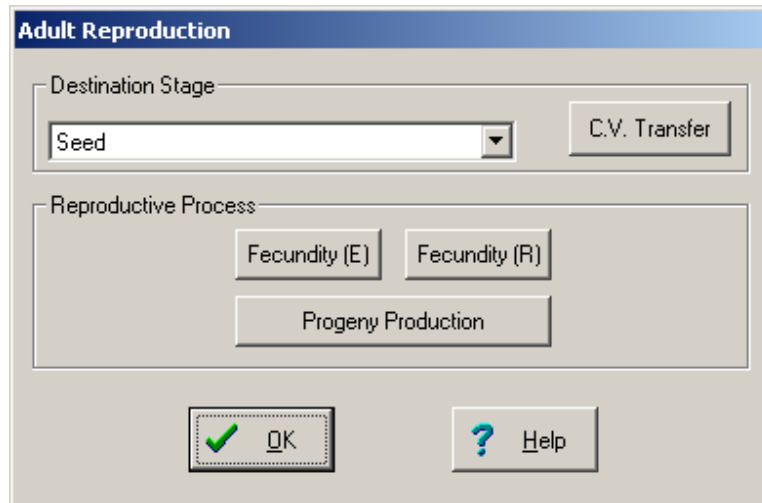

Figure 1.9 Reproduction Dialogue Box
Reproductive parameters are set from the '**Reproduction**' dialogue box (Figure 1.9 and its three components are **Fecundity (E)**, **Fecundity (R)** and **Progeny Production**. In DYMEEX, **Fecundity** is a property that specifies the number of 'potential' seeds that are available to be produced (by the **Progeny Production** process) at any time. "**Fecundity (E)**" (where the E stands for 'establishment') is the process that establishes a value for Fecundity when an individual enters the lifestage. By contrast, **Fecundity (R)** (R = 'recharge') can be used to "recharge" the Fecundity periodically. **Fecundity (E)** is most appropriate in models of insects, as adult insects can be considered to have a potential egg laying capacity (often dependent on larval nutrition) that is then exhausted through the adult stage. The same would also apply to annual plants. For most perennial plants, however, the fecundity will be determined annually based upon factors such as the size of the plant and the growing seasonal growing conditions prior to flowering. Hence, the **Fecundity (R)** process would be most appropriate for such models.